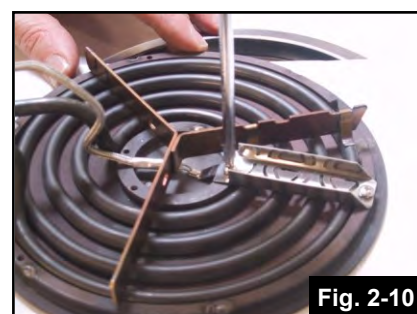

Fig. 2-10
9. Loosely secure the Safe-T-element® plate to the burner element using thermocouple assembly bracket and 2 M3x5mm screws using the #1 Phillips screw driver. (Fig.2-10)